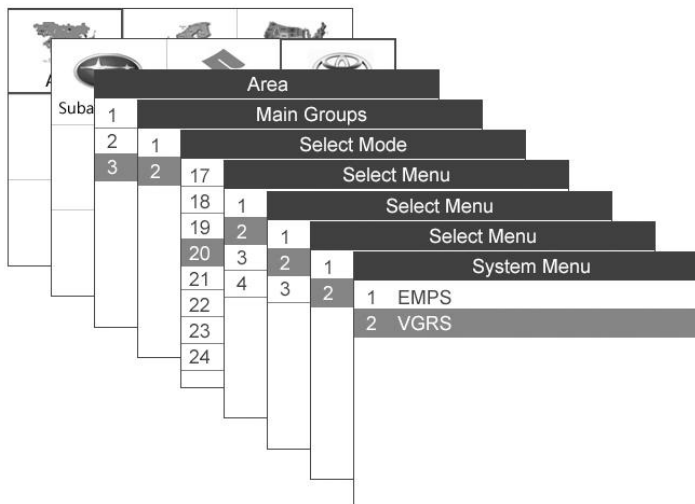

Figure 12-1
- H. Wait for a series of vehicle identification screens appears for user to identify the vehicle. (Figure 12-1) On each screen that appears, use the **UP/DOWN** scroll button to select the correct option and then press the **OK** button. Do this until the vehicle is completely identified.